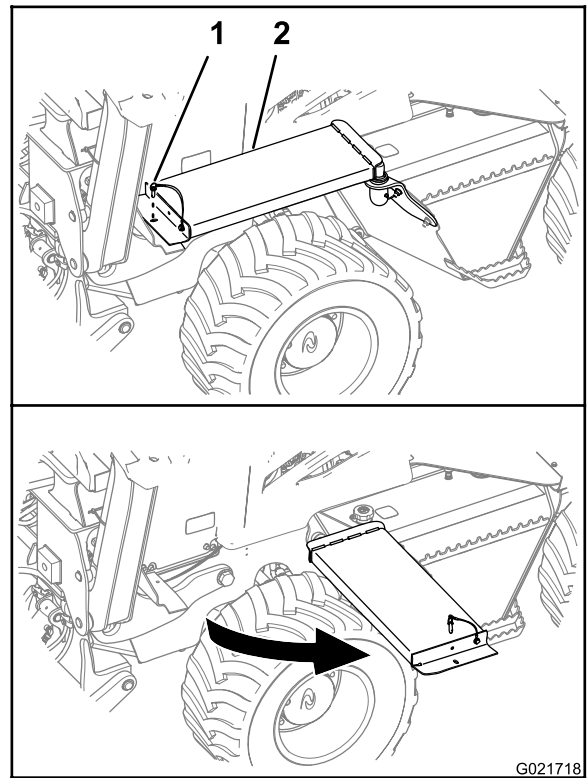

Figure 35
- A. At the left side of the machine, remove the retaining pin from the front end of the walkway (Figure 35).
- B. Pivot the walkway away from the machine as shown in Figure 35.
- A. Rotate the front end of the walkway to its original position (Figure 35).
- B. Align the hole in the walkway with the hole in the walkway support bracket (Figure 35).